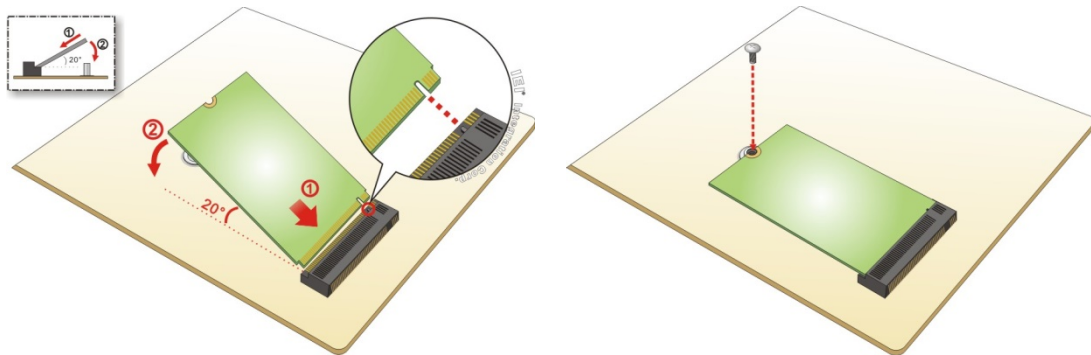

Figure 3-4: M.2 SSD Installation
Step 4: Line up the notch on the M.2 SSD with the notch on the connector. Slide the M.2 SSD into the socket at an angle of about 20° (Figure 3-4).
Step 5: Secure the M.2 SSD with the retention screw. Push the other end of the M.2 SSD down and secure the card with the previously removed retention screw (Figure 3-4).